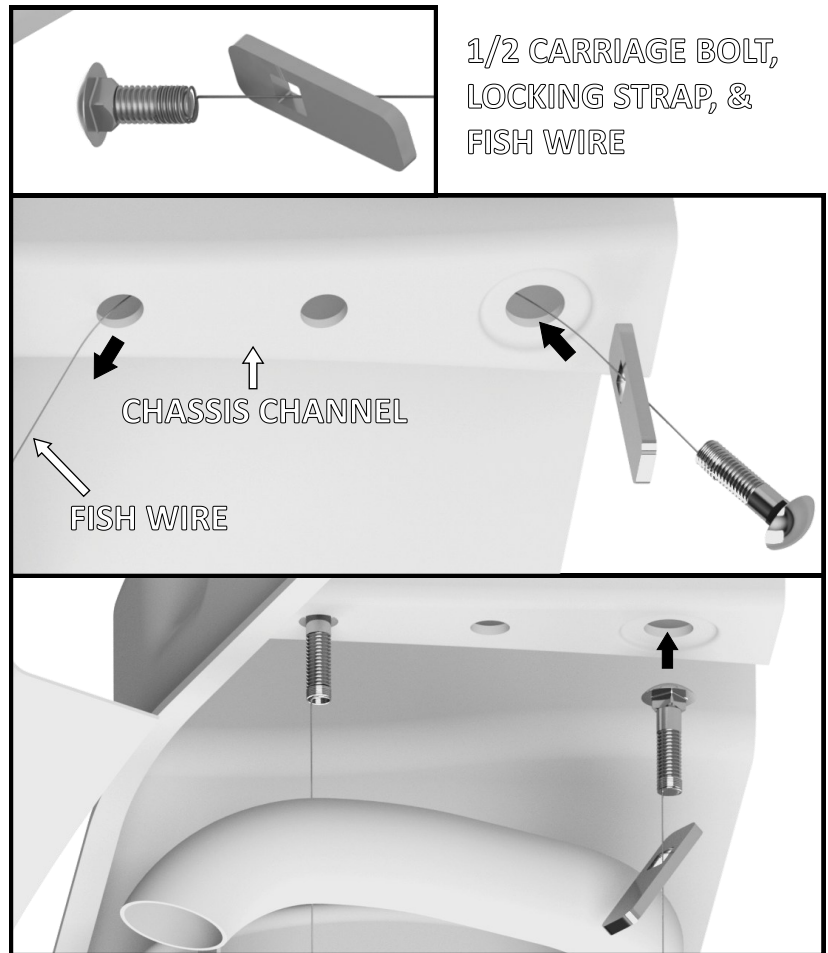

FIGURE A3: VIEW OF PASSENGER SIDE CHASSIS CHANNEL
3. Thread a carriage bolt and locking strap onto a fish wire. Pass the non-coiled end of the fish wire into the hole at the rear end of the chassis channel through the channel and into the larger forward hole, as shown in Figure A3. Insert the locking strap and carriage bolt into the channel through the large hole. Pull on the fish wire to bring the carriage bolt through the rear hole.
4. Thread another carriage bolt and locking strap onto a fish wire. In the larger forward hole, pass the carriage bolt and locking strap with fish wire into the channel, as shown in Figure A3. Pull the carriage bolt back down, through the locking strap, inside the larger hole.